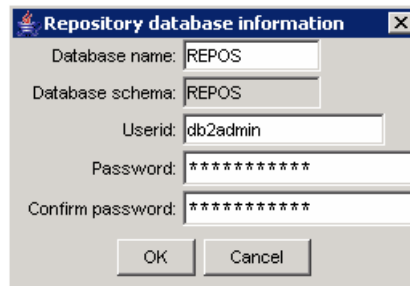

Figure B-16 Repository database information
- ▶ Click *OK* and enter the repository database information (Figure B-16).